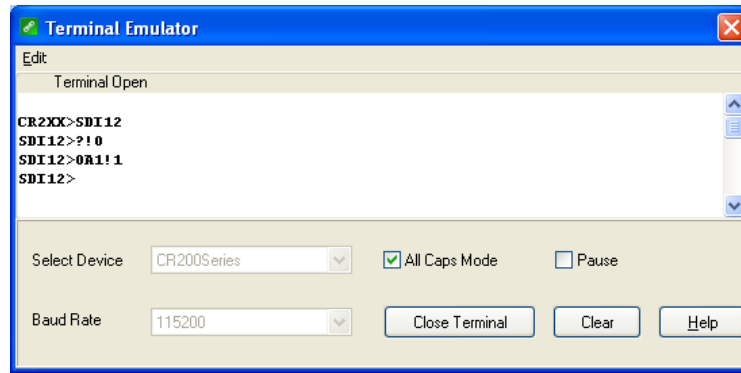

FIGURE D-1. CR200(X) example of using the SDI-12 transparent mode to change the SDI-12 address from 0 to 1
D.2.1 CR200(X) Series Datalogger Example
6. To change the SDI-12 address, key in *aAb! <enter>*, where *a* is the current address from the above step and *b* is the new address (see FIGURE D-1). The OBS501 will change its address and the datalogger will respond with the new address. To exit SDI-12 transparent mode select the **Close Terminal** button.